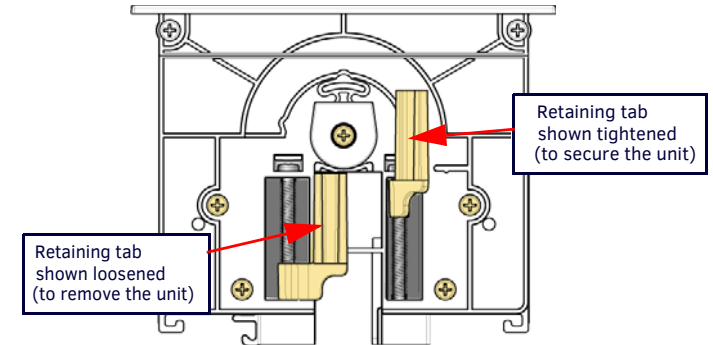

FIG. 11 HPX BASE ASSEMBLY (SHOWN MOUNTED) - MOUNTING SCREWS LOCATIONS
2. Tighten the four mounting screws (FIG. 10) located inside and at each end of the HPX base assembly, to rotate the retaining tabs (FIG. 11) into locking position under the mounting surface.
FIG. 11 provides a cutaway view of the End Cap, showing the retaining tabs highlighted in both the loose position and the tightened (secure) position.